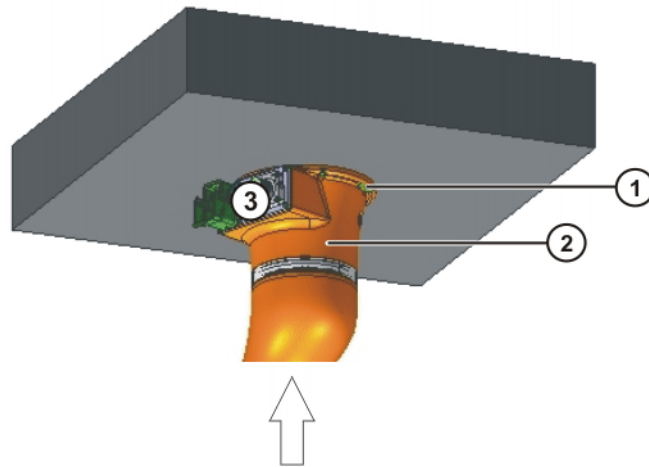

Fig. 8-4: Installation on the ceiling
3. Raise the robot vertically onto the mounting base from below. Ensure that an entirely vertical position is maintained in order to prevent damage to the centering pin (>>> Fig. 8-4).